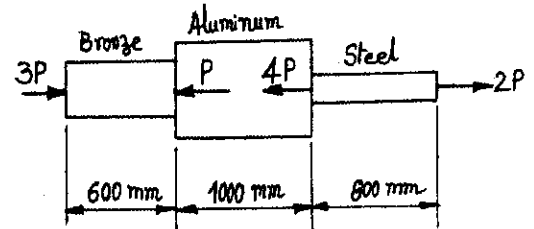

Fig.Q1(b)
- b. A compound bar consisting of Bronze, Aluminium and Steel segments is loaded axially as shown in Fig.Q1(b). Determine the maximum allowable value of 'P', if the change in length of the bar is not to exceed 2mm and the working stresses in each material of the bar, indicated in table below is not to be exceeded. (15 Marks)